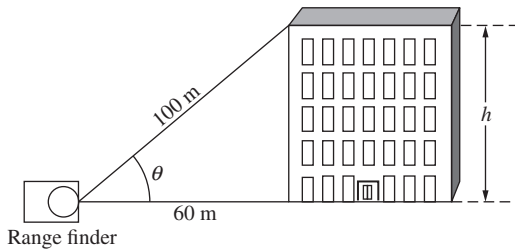

Figure P3.1 Using a range finder to find the height of a building.
- 3-1.** A laser range finder records the distance from the laser to the base and from the laser to the top of a building as shown in Fig. P3.1. Find the angle θ and the height of the building.